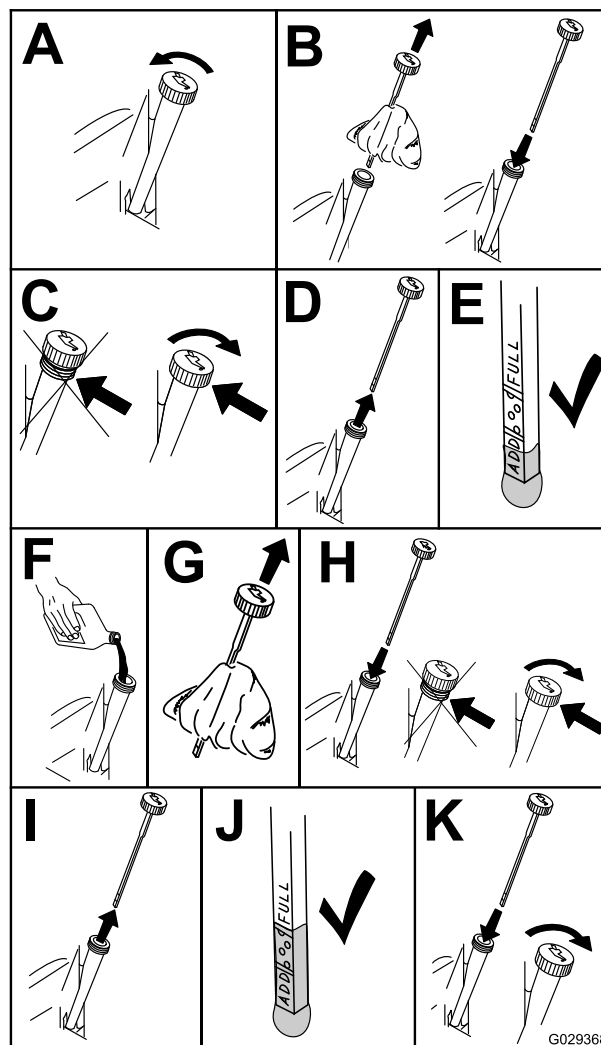

Figure 31
3. To keep dirt, grass clippings, etc., out of the engine, clean the area around the oil-fill cap and dipstick before removing it (Figure 31).